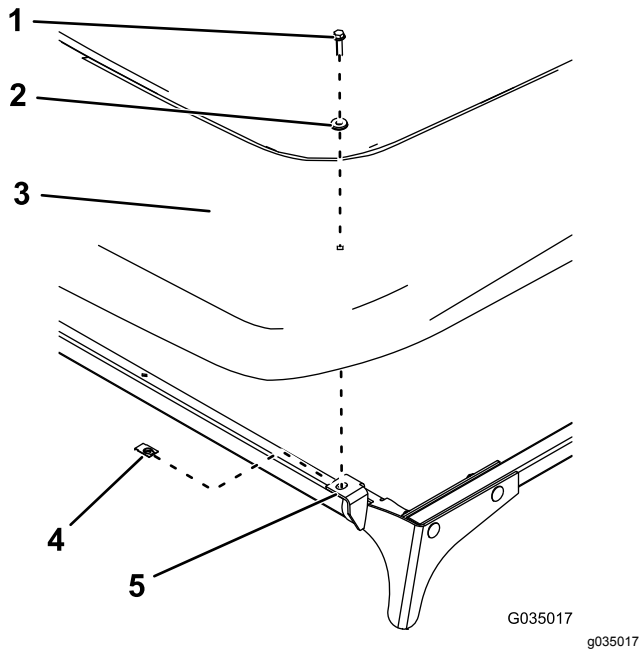

Figure 12
13. Install the sunshade to the front plates using 2 clips, 2 sealing washers, and 2 hex-flange bolts (1/4 x 1 inch) as shown in Figure 12.